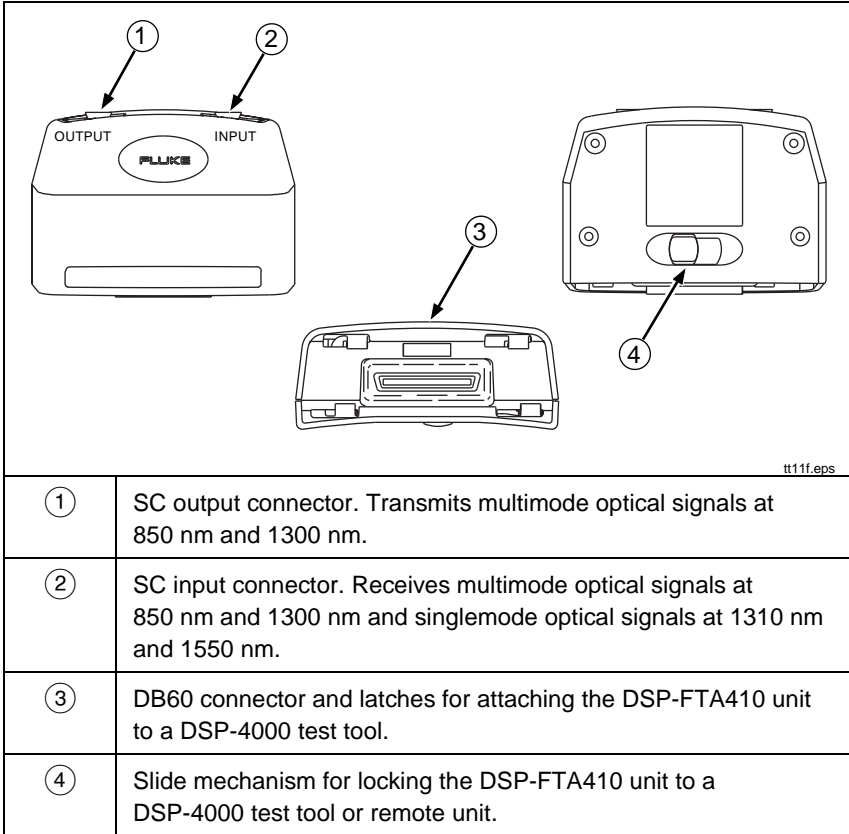

Figure 2. Features of the DSP-FTA410 Fiber Test Adapter
- **Never look directly into optical output connectors (see Figure 2). Some sources produce invisible radiation that can permanently damage your eyes.**
Figure 2 describes the features of the DSP-FTA410 Fiber Test Adapter.